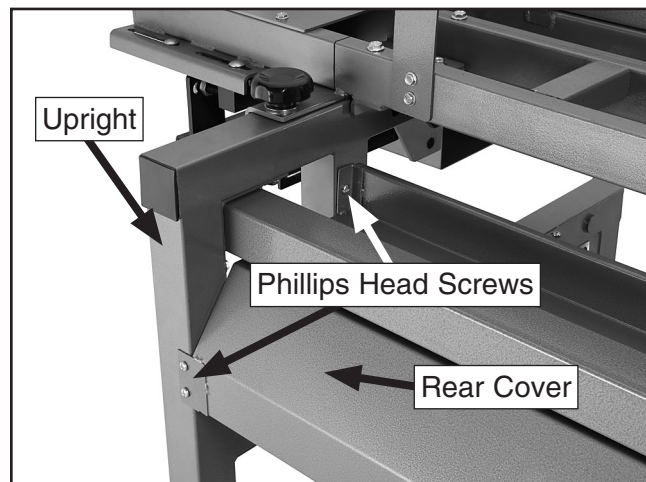

Figure 26. Rear cover.
- Attach the rear cover to the left and right uprights with the (6) $\frac{1}{4}$ -20 x $\frac{1}{2}$ " Phillips head screws, as shown in **Figure 26**.